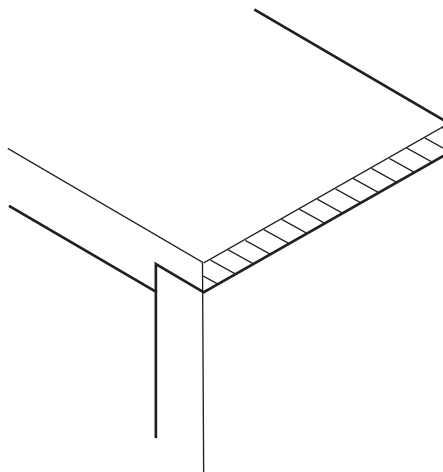

Fig. 2.1
- 2 Fig. 2.1 shows two pieces of softwood glued together.
- (a) Name the type of joint shown in Fig. 2.1.
- (b) Add sketches to Fig. 2.1 to show how the joint could be strengthened by dovetail nailing.